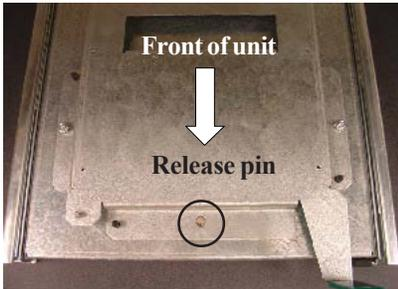
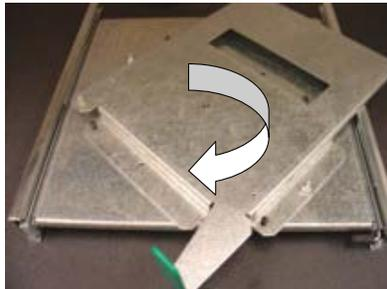
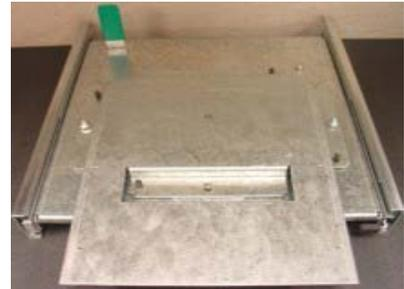

Figure 6. Pull release pin.
Figure 7. Rotate turntable 180°.
Figure 8. Turntable in “Service” position.
1. Extend the mounting tray assembly fully. Pull the release pin down (Figure 6) and rotate the turntable 180° clockwise (Figure 7). Release the pin and lock the turntable in the “Service position” (Figure 8).